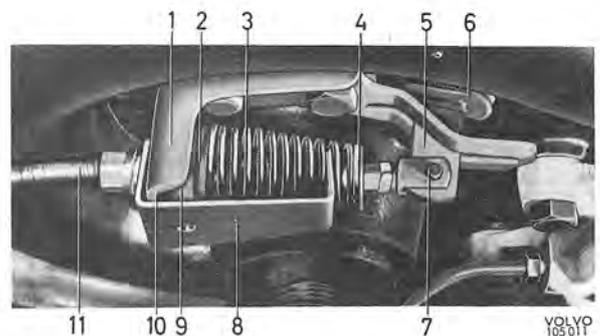

Fig. 5-83. Fitting the spring tool
5. Place holder SVO 2742 so that the return spring is held in position according to Fig. 5-83. Bend up the lock and remove the lock pin so that the cable releases from the lever.
2. Fit on new rubber cable guides for the cable suspension. Place the cable in position in the rear attachment and tighten the nut. Fit the washers and return spring. Compress the spring with the help of the holder tool, see Fig. 5-83. Oil the lock pin and fit it together with the cable on the lever. Fit the attachment and rubber cable guide on the frame member.